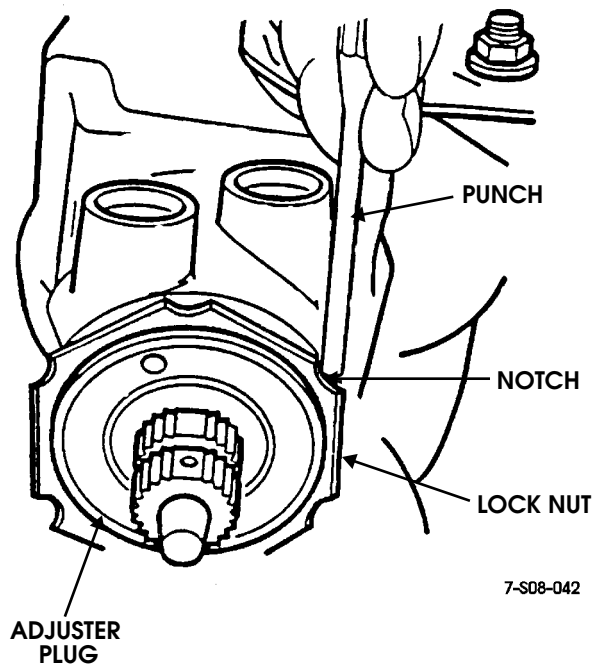

Figure 8-68: Securing Adjuster Plug Locknut
8. Install adjuster plug locknut. Hold adjuster plug from turning with spanner wrench while tightening locknut. Tap locknut with hammer to tighten. Then use punch to secure nut (Figure 8-68).